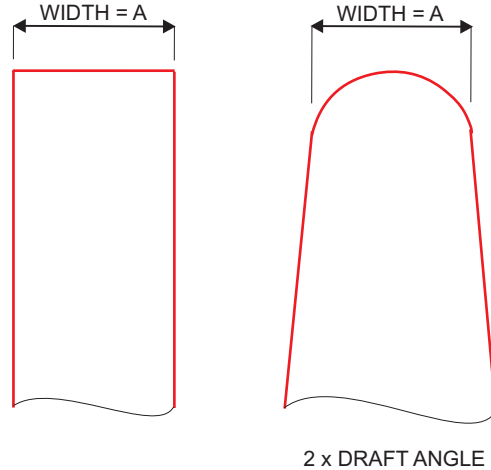

Figure 2-27: Rib Parameters
- WIDTH Width of rib. See Figure 2-27, next page.